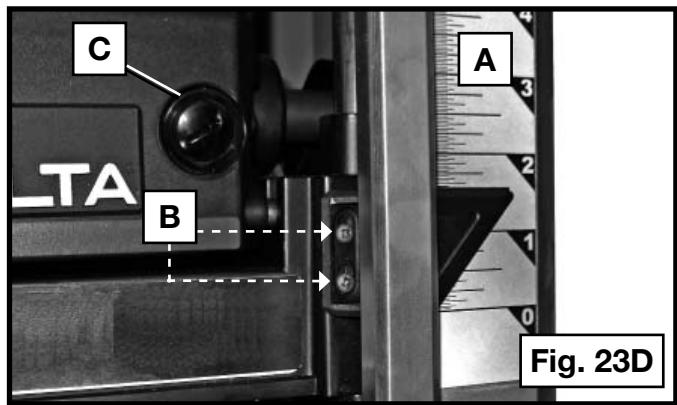

Fig. 23D
The depth adjustment scale (A) Fig. 23D on your planer is set at the factory. However, with extended use, the depth adjustment scale could show an incorrect measurement. To check the depth adjustment scale, plane a piece of scrap wood, noting the measurement on the depth adjustment scale. Measure the finished thickness of the workpiece. If the thickness of the workpiece does not match the reading on the depth adjustment scale, loosen the two screws (B) on the red indicator. Adjust the pointer up or down until its reading matches the finished thickness of the workpiece. Securely re-tighten the screws.
Your planer is equipped with brush caps (C) Fig. 23D that are external to the motor. If your brushes need to be replaced, begin by acquiring a new set from a DELTA Machinery service center or a dealer authorized to service DELTA products. Use only identical DELTA brushes.